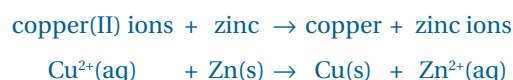

Figure 5.2.10 When zinc metal is placed in a copper sulfate solution, crystals of pure copper begin to form on the zinc metal strip.
Metal displacement reactions are simple redox reactions that involve only the transfer of electrons from one metal atom to another. For example, when zinc metal is placed in a solution of copper sulfate, the zinc atoms form zinc ions (Zn^{2+}) that dissolve into solution. At the same time, the copper(II) ions (Cu^{2+}) form solid copper crystals on the zinc as shown in Figure 5.2.10. Here, the zinc is said to displace the copper from solution.